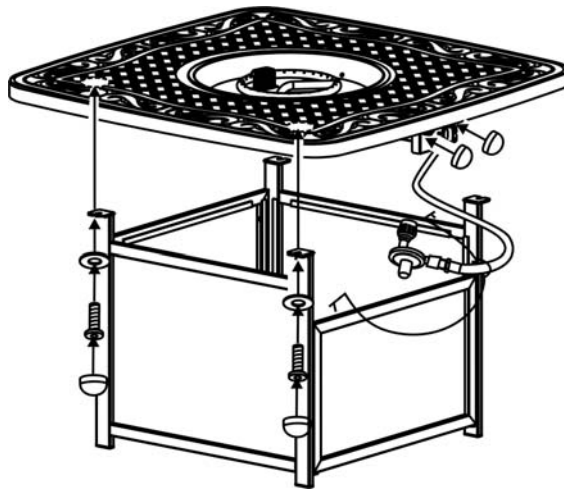

Figure 6
6. With the help of another person, carefully place the table top onto the firepit base. After making any necessary adjustments to the alignment of the table top and the assembled base, use four 1/4"x20 mm bolts and Ø18xØ6.5x1.5 mm washers as shown in Figure 6. Guide the bolts through the holes in the base, into the pre drilled holes in the table top. **Do not tighten completely.**